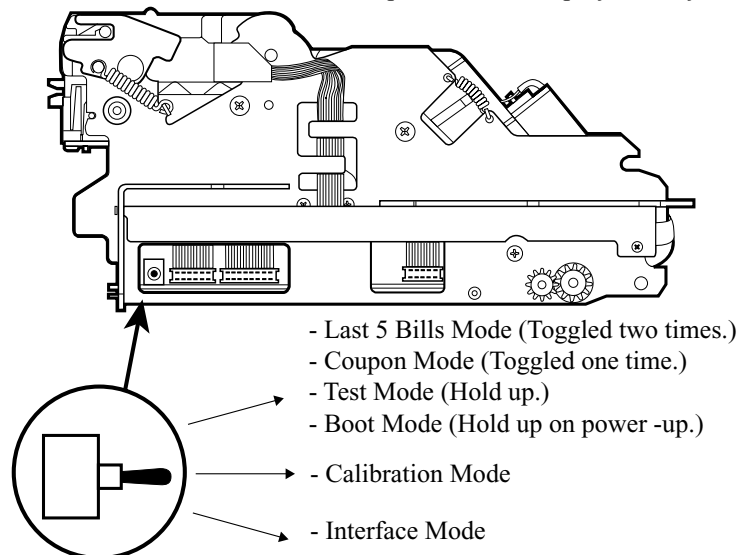

Figure 1
2. Place the mode switch to the calibration position. (See Figure 1.)
9. Power down the ZT1200 unit and place the mode switch to the interface position. (See Figure 1.)